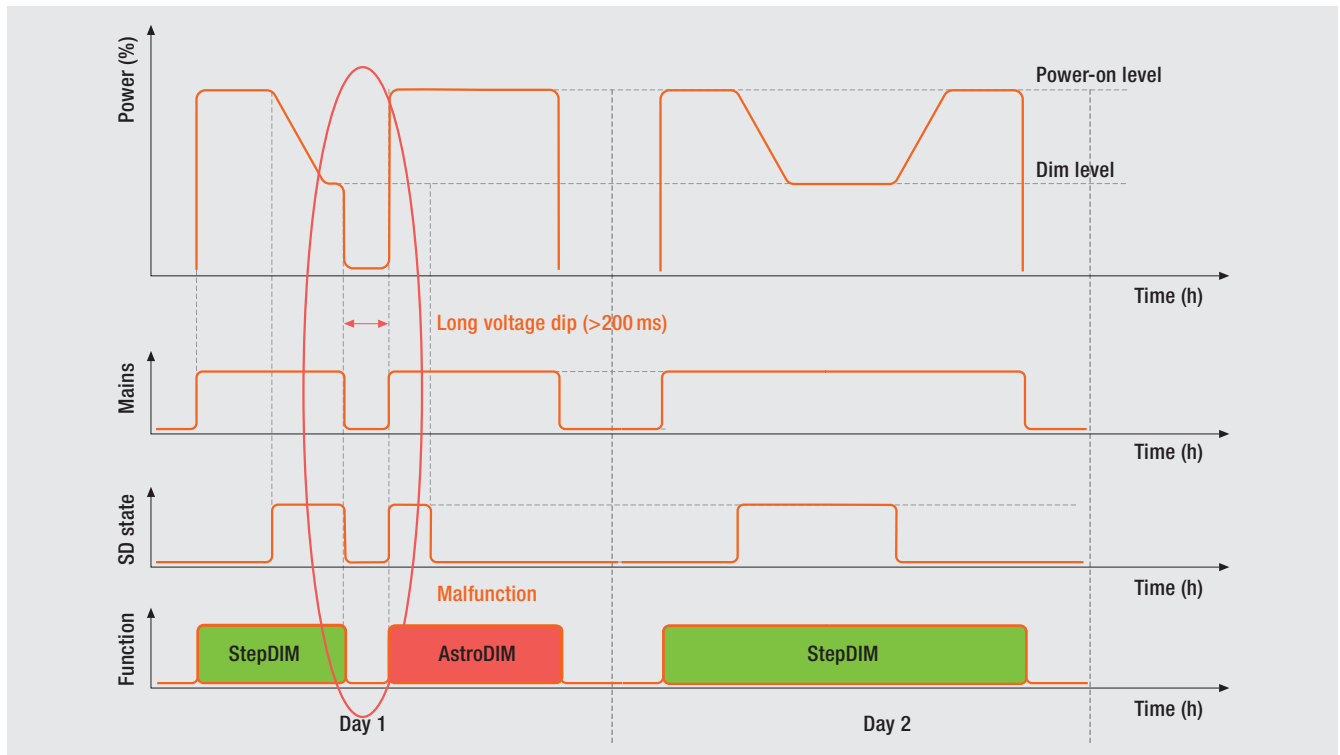

Figure 27: Long voltage dip – malfunction and ECG reset.
- If the SD state is HIGH immediately after the ECG is switched on (at least for the first 500 ms), the AstroDIM function is activated. This malfunction is corrected automatically as can be seen in figure 27. The unwanted AstroDIM function does not modify any StepDIM parameters and stops as soon as the power is interrupted. When the power is switched on again, the ECG returns to regular StepDIM operation. This malfunction can be completely avoided if the “StepDIM/DALI” mode is selected and configured with the 3DIM Tool instead of the “StepDIM/AstroDIM/DALI (wiring selection)” mode.